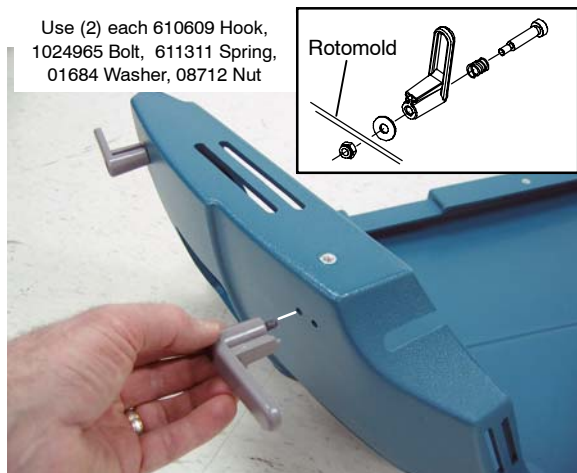

Fig. 10
9. Attach the cord hooks to the new side panel as shown (Figure 10).